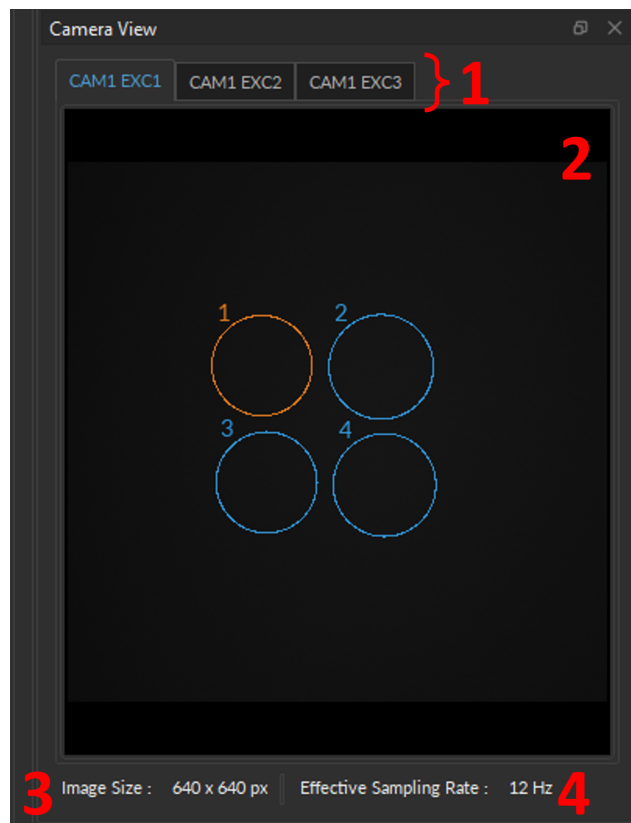

Figure 9.41: Camera View
1. The **CAM # EXC #** tab (Fig. 9.41, 1) - which displays each sensor's live video feed, where the ROI(s) can be drawn, edited, or deleted. Note that the tab will display the user-defined name if a name was assigned to each camera excitation when creating the channel in the **Configuration Window** (Fig. 9.15, e).
3. The **Image Size** (Fig. 9.41, 3) displays the image resolution, set in the **Configuration Window** (as in Fig. 9.15, 2).
4. The **Effective Sampling Rate** (Fig. 9.41, 4) the value set in Section 9.4.3, no. 1c.